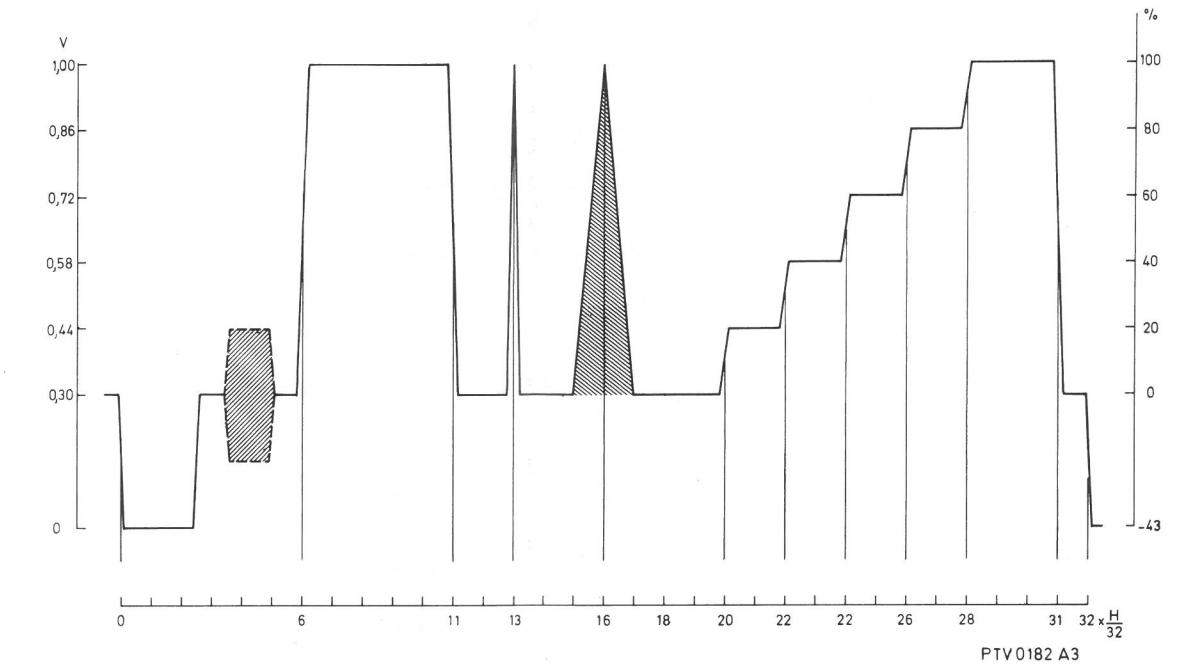

Fig. 3-1 Line 17 signal
1. (A) Line 17 signal (See also fig. 3-1)**a. Signal elements.**